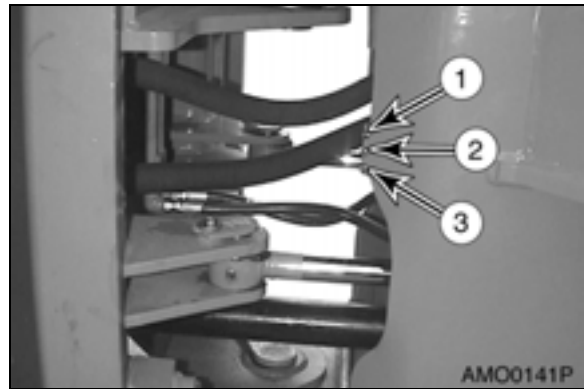

Figure 46
- Steering cylinder head ends, 2 locations. Use remote grease fittings mounted on frame.(1,2 Figure 46).